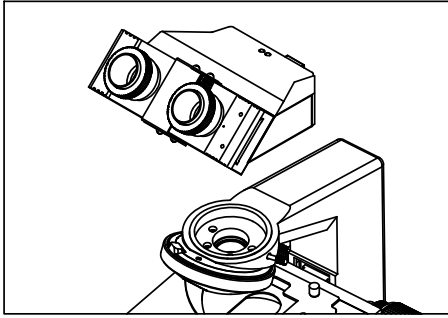

Fig.1
2.2.1 Installing digital viewing head (Fig.1, 2)